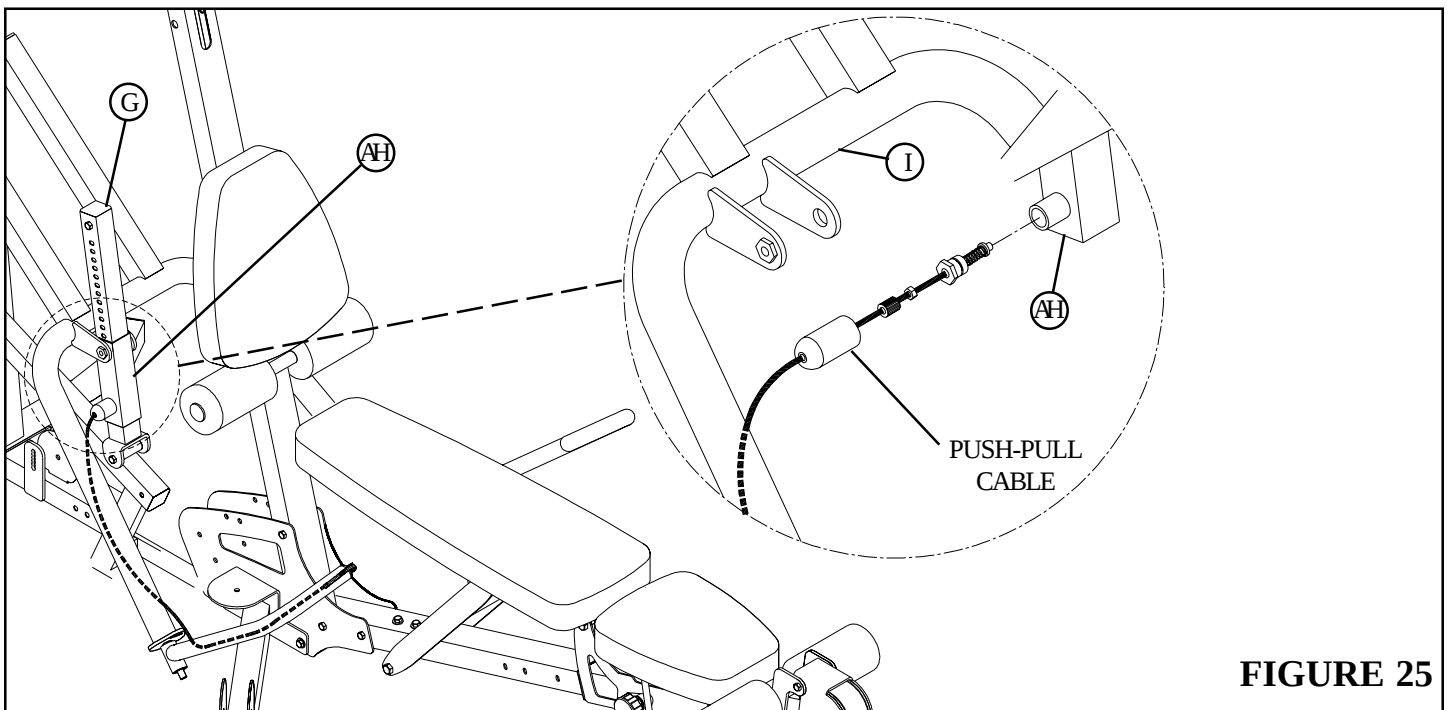

**FIGURE 24**
- Assemble the RIGHT PRESS ARM HANDLE (R) to the PRESS ARM (I) using one 25/32" BUMPER (AO) and one 1/2" LOW HEIGHT LOCK NUT (27) as shown in FIGURE 24. **(NOTE: Tighten 1/2" LOW HEIGHT LOCK NUT (27) to remove excess play yet allow the RIGHT PRESS ARM HANDLE (R) to rotate freely.)**
- Assemble the LEFT PRESS ARM HANDLE (Q) to the PRESS ARM (I) using one 25/32" BUMPER (AO) and one 1/2" LOW HEIGHT LOCK NUT (27) as shown in FIGURE 24. **(NOTE: Tighten 1/2" LOW HEIGHT LOCK NUT (27) to remove excess play yet allow the LEFT PRESS ARM HANDLE (Q) to rotate freely.)**